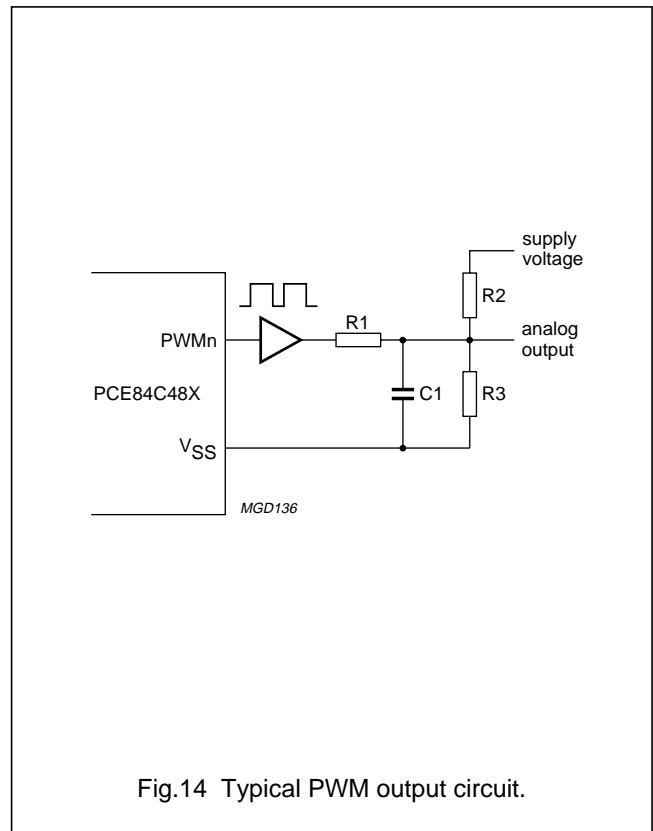

Fig.14 Typical PWM output circuit.
A typical PWM application is shown in Fig.14. R1 and C1 form an integration network the time constant of which should be at least 5 times greater than the repetition period of the PWM output pattern. In order to smooth a changing PWM output a high value of C1 should be chosen. The value of C1 will normally be in the range 1 to 10 μF. The potential divider chain formed by R2 and R3 is used only when the output voltage is to be offset. The output voltages for this application are calculated using Equations (1) and (2).